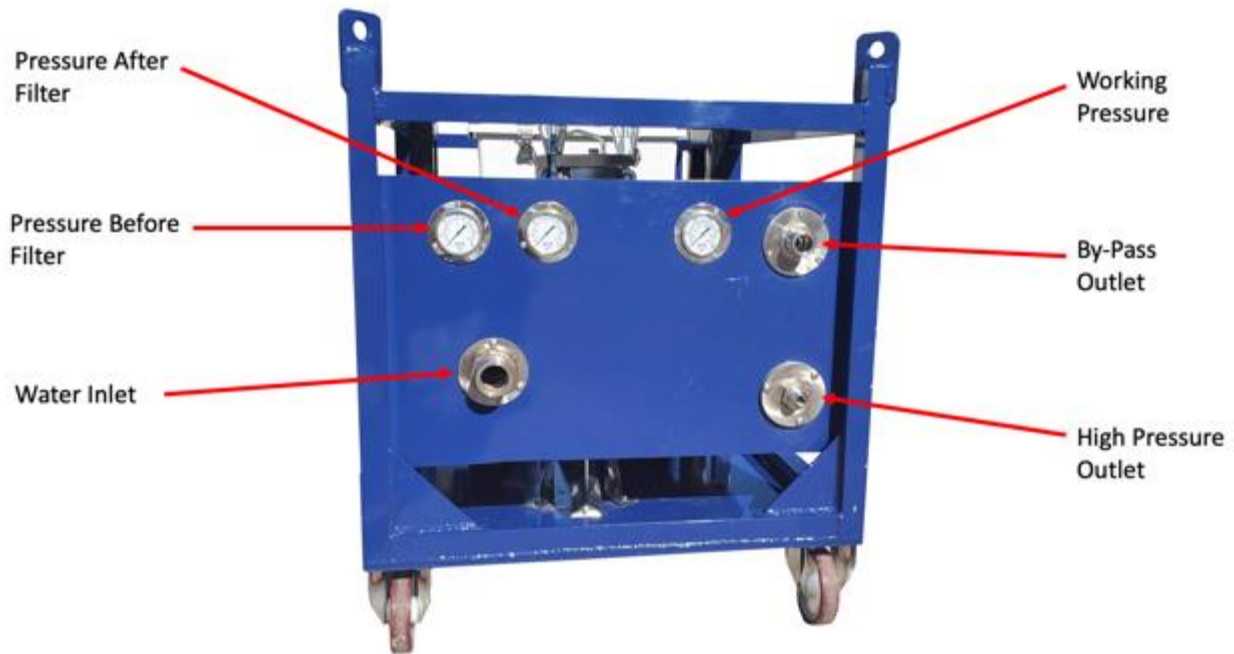

Figure 2.2 – CaviBlaster 1725-E Control panel
Figure 2.2 – CaviBlaster 1725-E Control Panel.....	8
- 10) Connect the by-pass hose (See Figure 2.2).
- 11) Connect the pressure hose (See Figure 2.2).
The feed water inlet connection is located on the hoses panel (See Figure 2.2). Two water supply conditions are acceptable for the CaviBlaster power unit.
- Push IN the Stop button to ensure that the power supply has been disconnected. (See Figure 2.2).
- Connect the cam-lock socket on the 1-1/4" clear PVC feed hose to the water inlet connection on the control panel (See Figure 2.2). Place the other end of the hose in the water supply.
- Connect a 1-1/4" cam-lock socket on the water supply hose to the water inlet connection on the control panel (See Figure 2.2).
- Locate the water supply tank so that the outlet of the tank is higher than the water inlet on the control panel (See Figures 2.2 and 4.3).
- Push IN the Power Off button to ensure power has been disconnected. (See Figure 2.2).